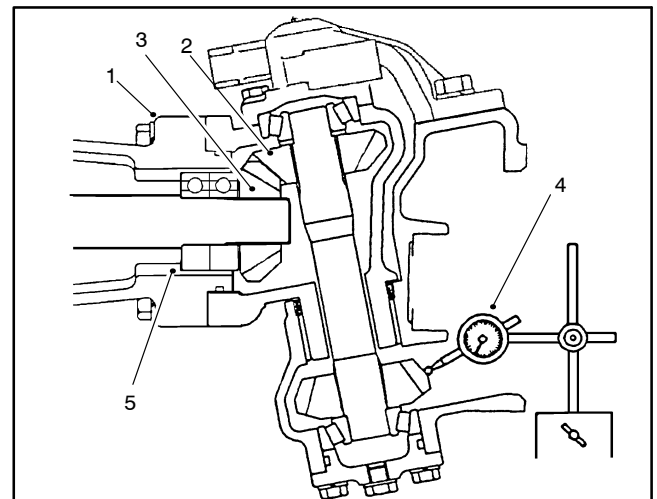

Figure 21
7. Temporarily install the bevel gear case/axle case assembly on the axle support. Position a dial indicator at the teeth center. Prevent the axle from turning and measure the upper bevel gear to differential shaft gear backlash (Fig. 21).